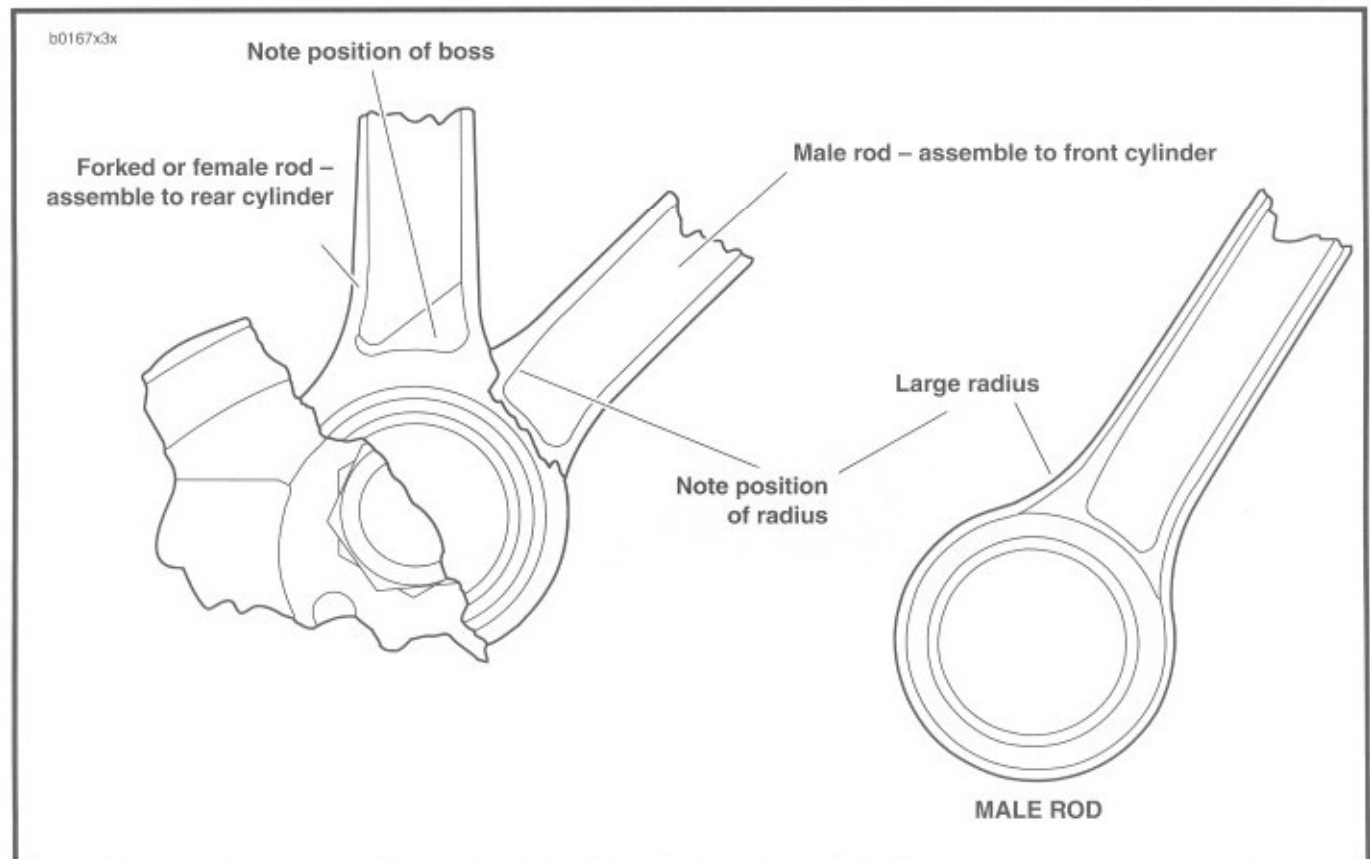

Figure 3-91. Installing Connecting Rods
3. Assemble crank pin (6) to gear-side flywheel (5) making sure that key (7) is in proper position. Tighten crank pin nut. See ENGINE, SPECIFICATIONS for proper torque.
5. See Figure 3-91. Slip bearings, and connecting rods over crank pin. Assemble angular boss of the female rod adjacent to large radius side of the male rod as shown. The side of the male rod with the larger radius is narrower in the area where it fits between the forks of the female rod.